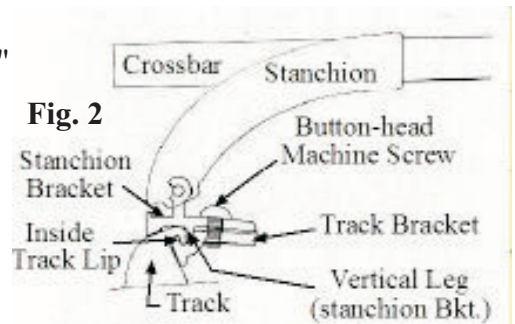

Fig. 2
4. Assemble Track Brackets to Stanchion Brackets by inserting 1/4"-20 x 1/2" Button Head screw through hole in Stanchion Bracket into tapped hole in Track Bracket approximately 1-2 turns (see Fig. 2). Position stanchion/crossbar assemblies on tracks, aligning vertical leg of Stanchion Bracket snugly to inside of track. Loosening screw if necessary, hook Track Bracket under inside lip of side rail and tighten just enough to keep Track Bracket in position under rail lip. Repeat for each Bracket assembly.